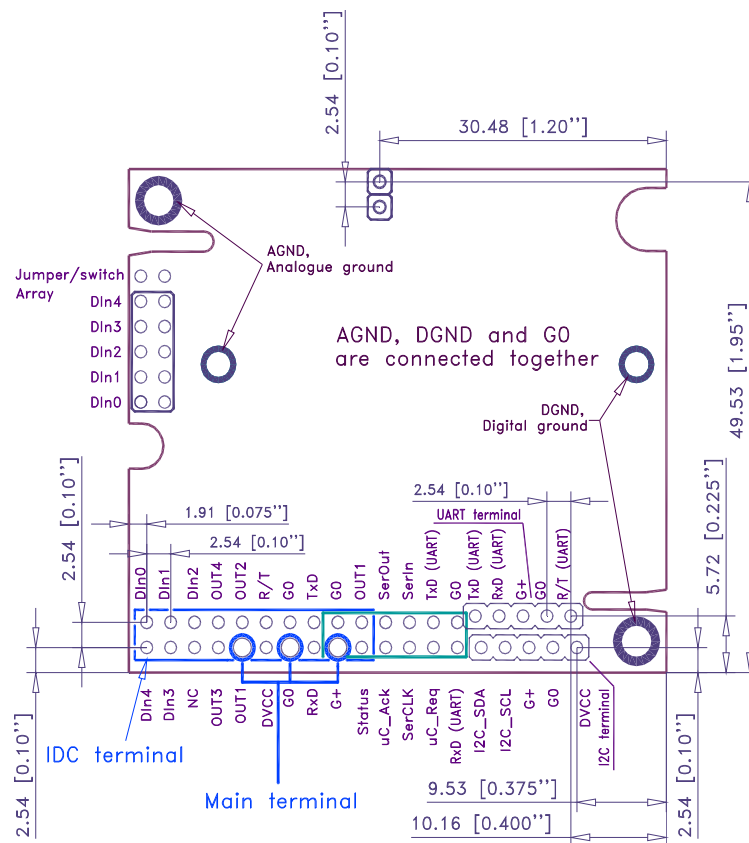

Figure 2. **CO₂ Engine® K30** I/O notations, terminal positions and some important dimensions for mounting the K30 platform PCB into a host system (Top view).
The table below specifies what terminals and I/O options are available in the general **K30** platform (see also the layout picture Fig. 2). Please note, however, that in the **CO₂ Engine® K30** default configuration, only OUT1, OUT2, Din1, Din2 and Status have any pre-programmed functions. These are described in the chapter “Default Configuration”.
The modules are factory calibrated and ready for use directly after power up. There are several alternative ways to connect the **CO₂ Engine® K30** to a host system (see also figure 2):
- The two screw points in the upper left corner (having the IDC and edge connectors faced downwards, as in Figure 2) are connected to the *analogue* ground. They are the preferred choice for connection to some EMI shield, if so is required. This is normally necessary only if the application is such that large EMFs are foreseen. If this option is being used, precaution must be taken so as to exclude any power supply currents! Sensor reading instability is an indication of the need for shielding, or of improper enclosure system groundings.